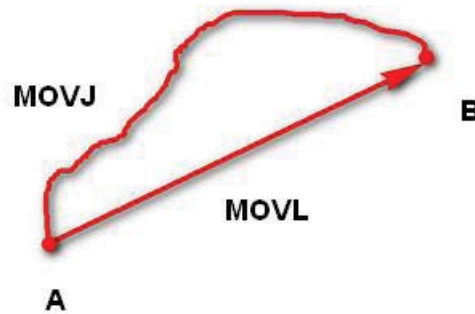

Figure 3.6 MOVJ/MOVL mode
- **MOVJ**: Joint movement. From point A to point B, each joint will run from initial angle to its target angle, regardless of the trajectory, as shown in Figure 3.6.
- **MOVL**: Rectilinear movement. The joints will perform a straight line trajectory from point A to point B, as shown in Figure 3.6.